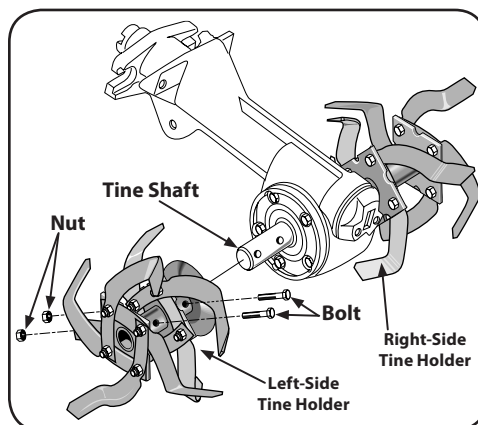

Figure 5-9
5. Use two  $\frac{9}{16}$ " wrenches to remove the two bolts and nuts securing the tine to the tine holder plate. See Figure 5-9. Use penetrating oil on the hardware if it is rusted or hard to remove.
3. Remove the two bolts and nuts securing each holder. See Figure 5-9.